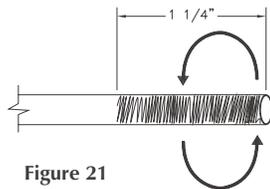

Figure 21
1. **SAND THE END** (Fig. 21) of the plastic water supply tube. **FAILURE TO DO SO MAY RESULT IN LEAKS.** Use medium sandpaper (not provided) approx  $1 1/4"$  from the end in a rotating motion. This assures a non-slipping, trouble free connection.
2. **SAND THE END** (Fig. 21) of the plastic water supply tube. **FAILURE TO DO SO MAY RESULT IN LEAKS.** Use medium sandpaper (not provided) approx  $1 1/4"$  from the end in a rotating motion. This assures a non-slipping, trouble free connection.